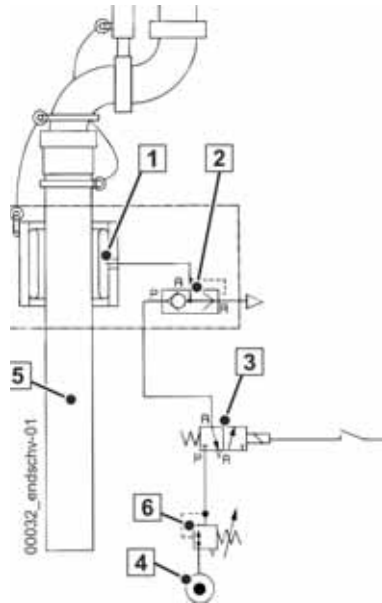

Fig. 449 Non-return valve open
In its default position, the solenoid valve (3) (**Fig. 449**) is de-energised. The compressed air supply to the shuttle valve (2) is interrupted.
The solenoid valve (3) (**Fig. 449**) is de-energised and switches to the default position: "Vent".